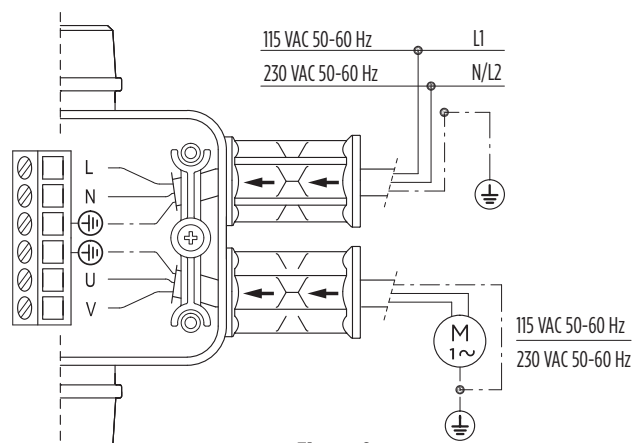

Figure 9
⚠ NOTICE Follow all indications on the electrical diagram shown in Figure 9.
! NOTICE The safety earth ground connection is marked at its terminal using the \oplus symbol (Figure 9).
8. Connect the supply wires to the screw terminal marked L and N (Figure 9). Use only copper wires rated for at least 60 °C. Lead wire terminals should be tightened to a torque of 4 in-lbs (0.5 Nm).
9. Connect the motor wires to the screw terminal marked U and V (Figure 9). Use only copper wires rated for at least 60 °C. Lead wire terminals should be tightened to a torque of 4 in-lbs (0.5 Nm).